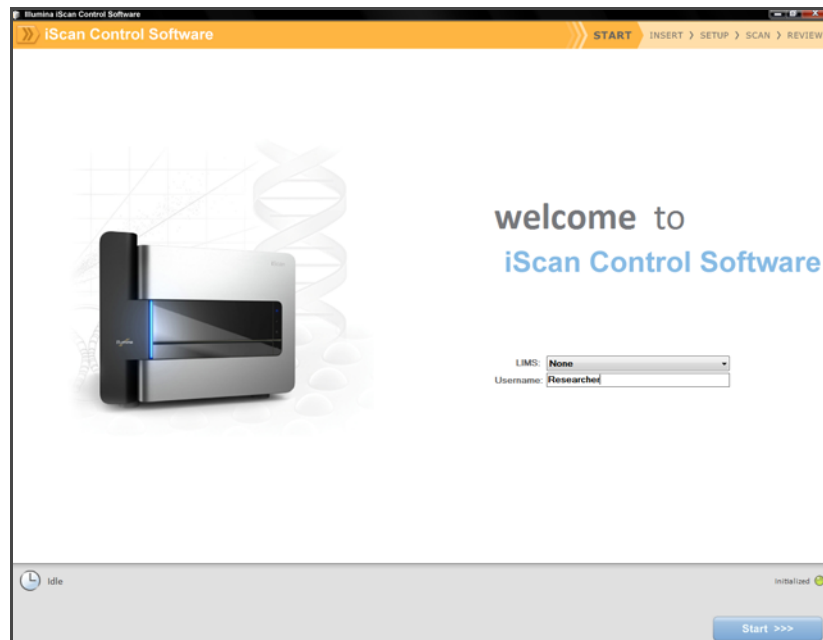

Figure 41 Welcome Window
3. Set the LIMS dropdown list to **None** and enter your Windows user name (Figure 41).